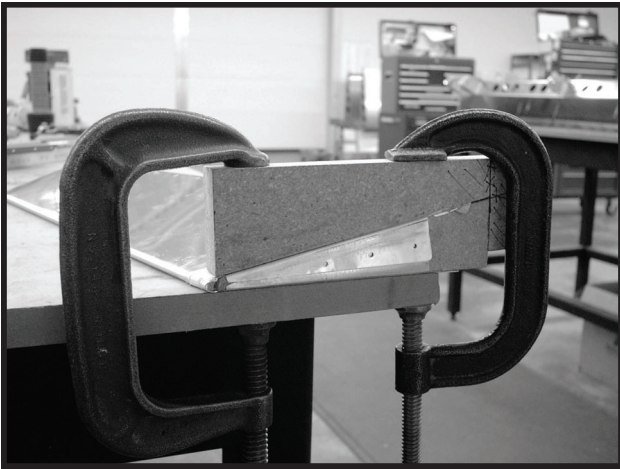

Figure 6-4
- ❑ With the block still clamped in place repeat the above steps to bend the upper tab up and over the bottom tab (See Figure 6-4).